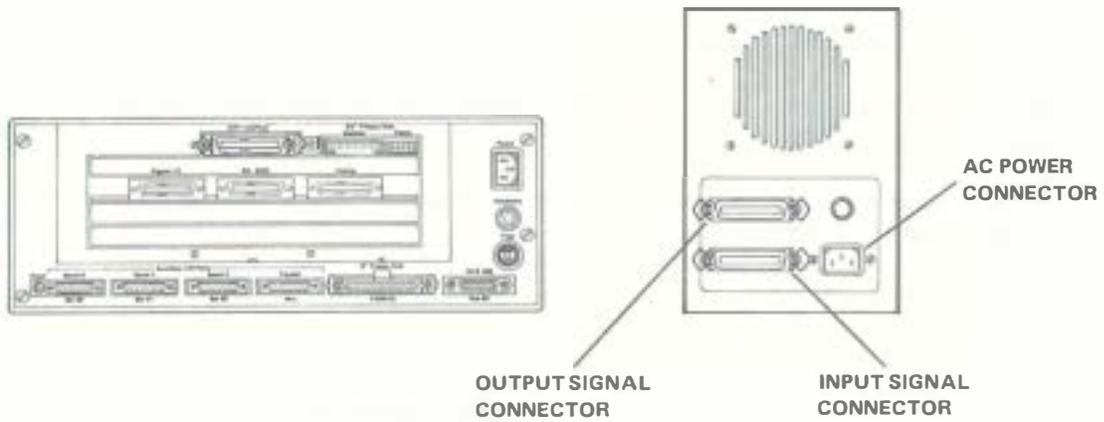

Figure 5-22. 5 1/4" Diskette Drive Assembly Connections
7. Disconnect the two connectors and remove the diskette drive. See Figure 5-22.
3. Disconnect the power cord and all other connectors on the rear of the diskette drive assembly. See Figure 5-22.
6. Reconnect the power cord and all other connectors that were removed from the rear of the diskette drive assembly. See Figure 5-22.